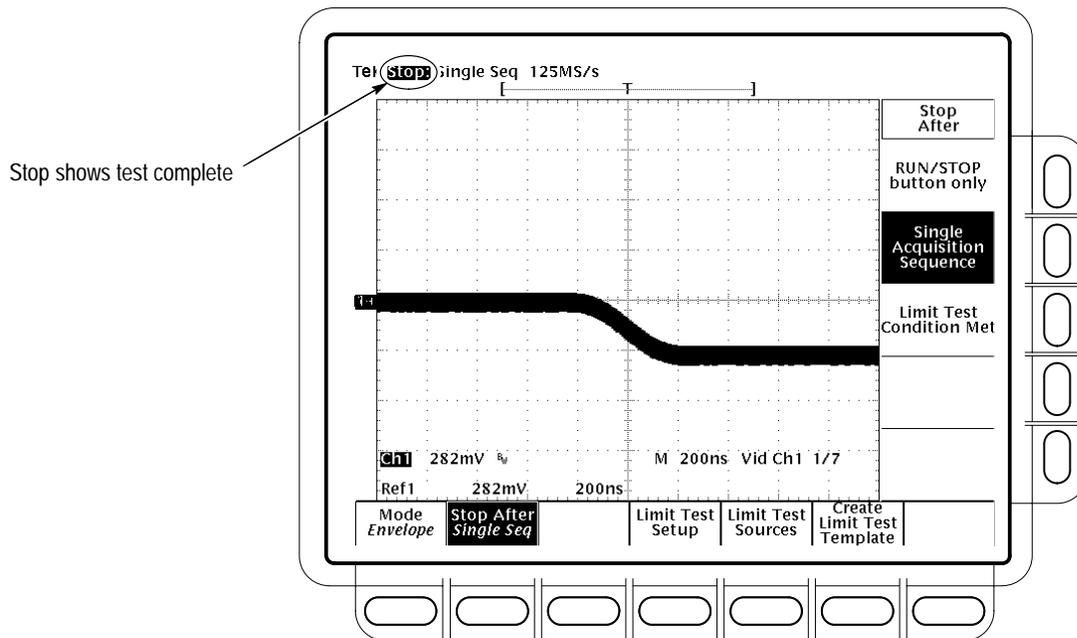

Figure 4–28: Jitter Test When Completed – TDS 684B Shown
- v. Confirm that the oscilloscope successfully makes 100 acquisitions. If not successful, the oscilloscope bell will ring. When the word **Run** in the top left corner of the display changes to **STOP**, the test is complete. See Figure 4–28.